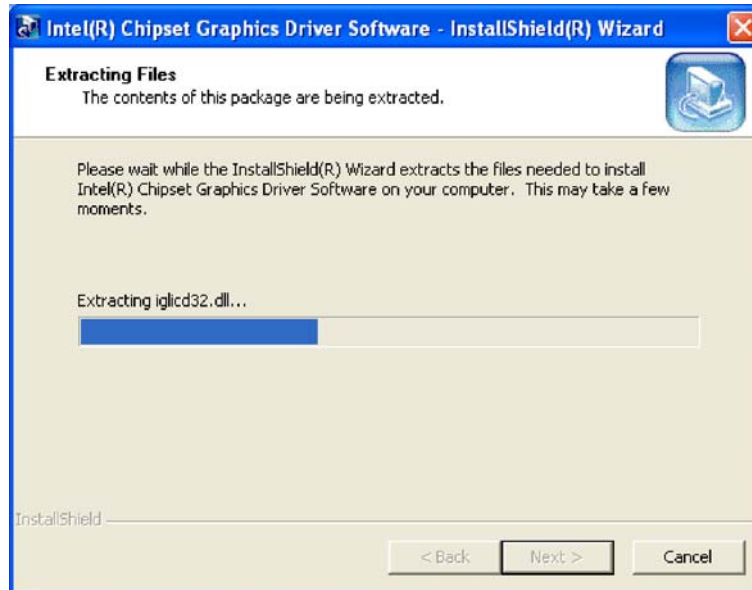

Figure 7-12: VGA Driver Setup Files Extracted
Step 7: The installation files are extracted. See Figure 7-12.